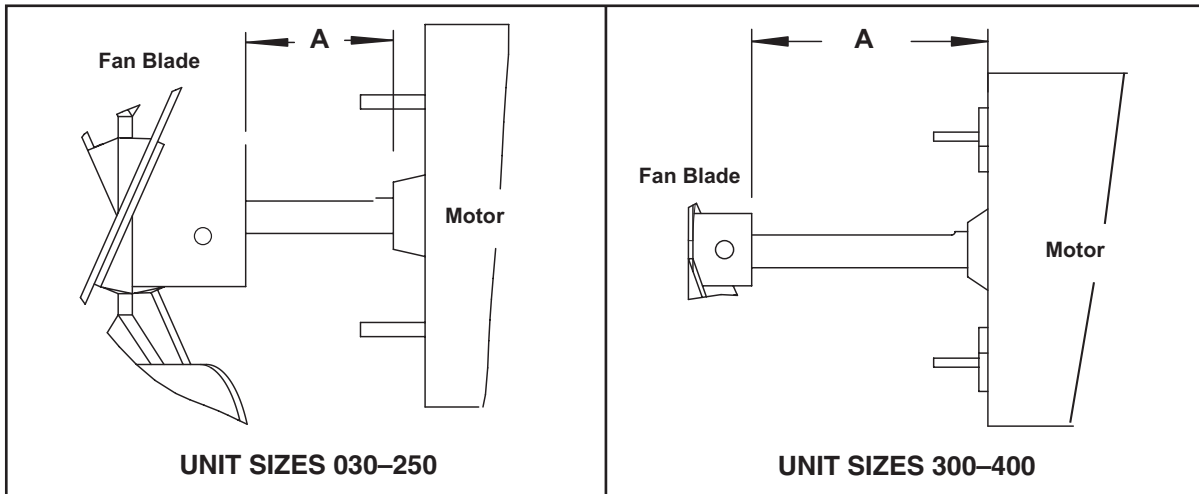

Figure 17. Fan Blade Positioning and Spacing
6. Ensure that fan blade is in proper position on shaft (see **Figure 17**) and that blades are properly spaced (refer to **Table 18**).
*See **Figure 17**.